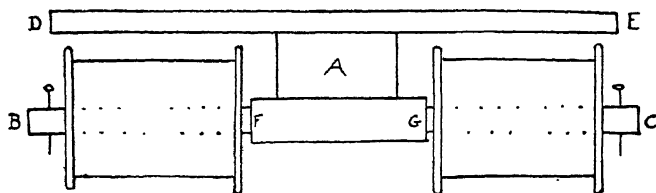

FIG. 197
(1) Small reels make good wheels for trams, motor-cars or trains. They require no sawing. Fig. 197 shows how they are
(5) There is a little instrument sold called a circle-cutter designed for cutting small circular pieces of wood from satin walnut board. It is so constructed that it will cut circles of any size up to 5 inches in diameter. This, however, is difficult for children to use.
(6) For large wheels or table-tops a circle can be drawn in a square, the corners sawn off, the obtuse corners sawn off again and then filed perfectly round. This is rather a laborious method, but quite successful. Holes can be made in the centre with a bradawl and enlarged with a round file.
(8) The fret-saw (see Part II) is very useful for making wheels.
(9) The wooden tops of gloy bottles make very good wheels indeed (especially for motor-cars). They are ready for use at once, as they have a hole in the centre. Also the tin tops of Le Page's liquid glue make excellent small wheels; a hole can easily be made in the centre by means of a hammer and a long nail or the pin stopper of a tube of seccotine.
(10) Wheels can be bought sometimes. This is the least satisfactory course.
Of the various ways of making wheels described above, the methods best suited to little ones are (1), (3), (6), (7), and (9). The axles should be narrow strips of wood, with the ends rounded. Round rods do not make good axles, because they cannot be fastened securely to the bottom of the vehicle, the nailing being a difficult matter for the children. In fastening the axles to vans, carts, etc., there is no need for block A (Fig. 197); the latter is only